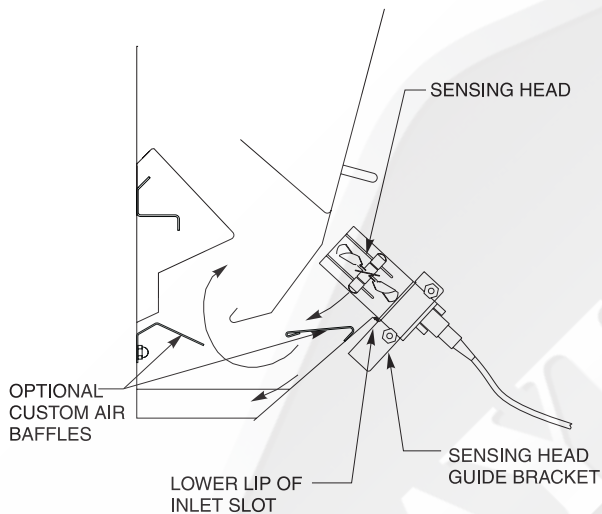

FIG. 5B
1. It is first necessary to determine if the ventilator includes Custom Air baffles as shown in Fig. 5B. If shop drawings are available, and if equipped, the custom baffles and their location will be noted on the front elevation. If not available, to determine if Custom Air baffles are provided run your hand along the bottom inlet slot and feel for the Custom Air baffle as illustrated in Fig. 5B.
Important Note: If the ventilator includes custom air baffles as illustrated in Fig. 5B, always take separate readings on the section of the ventilator that includes custom air from the section that does not have the baffles. Non custom air and custom air readings must be recorded separately. Do not average them together.